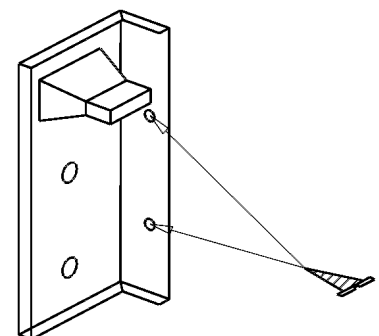
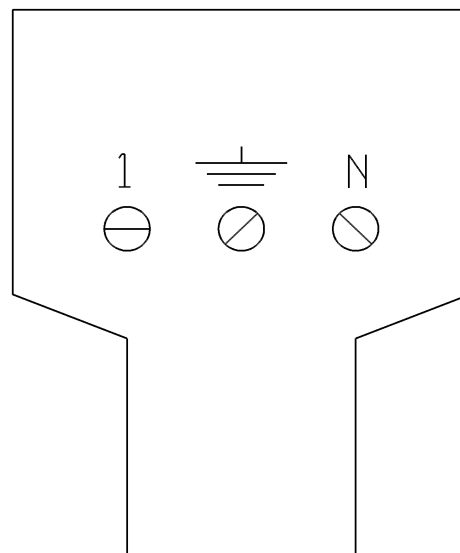

Fig. 3
Fig. 9
- Fasten the power supply unit (fig.3) to the back of the appliance in the top left-hand corner using two wood screws as shown in fig.2.
- Connect the power cable supplied to the connector on the back of the appliance, plug the connector into the power supply unit on the back of the post (fig.3) where you will find the terminal board (fig.9) set to operate at a supply voltage of 230V monophas.